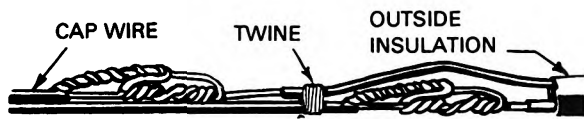

Figure 3.
(1) If pairs of wires are spliced, stagger the two separate splices and tie with twine or tape (figure 3).